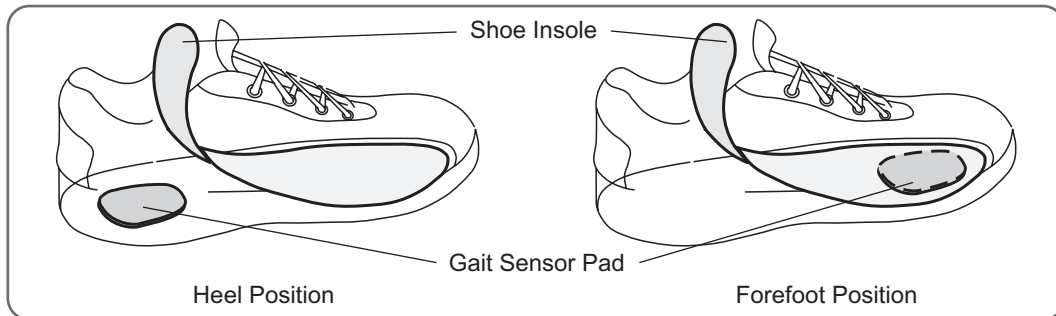

Figure 6-17: Placement of the Foot Sensor Pad
2. Attach a Foot Sensor Pad under the insole, in the position that was defined by your clinician. See Figure 6-17.